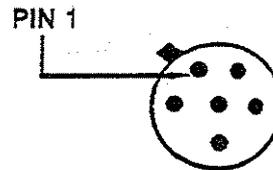

Figure B-3. Pin 1 on Thermistor Mount
1. Set the DVM to measure resistance. Connect the DVM between the Vrf connector on the rear panel of the HP 432A power meter, and pin 1 on the thermistor mount end of the HP 432A power meter interconnect cable. Refer to Figure B-3.